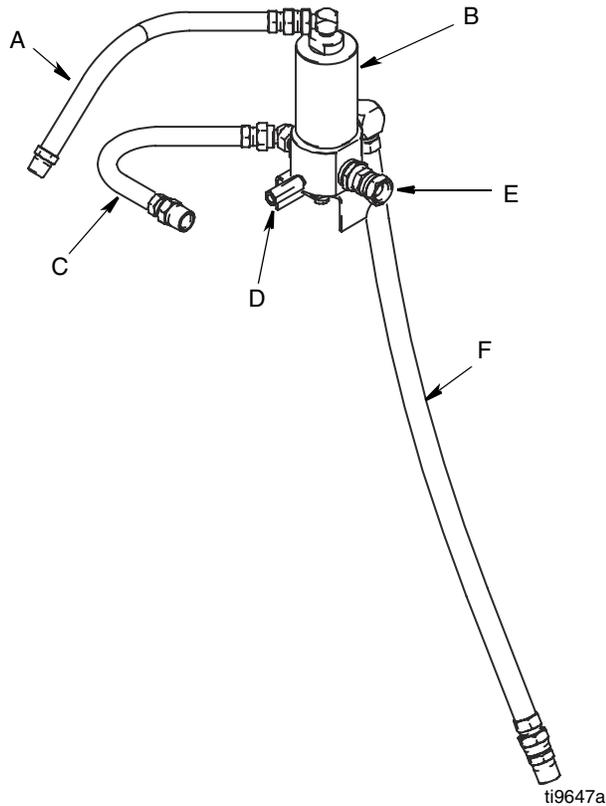
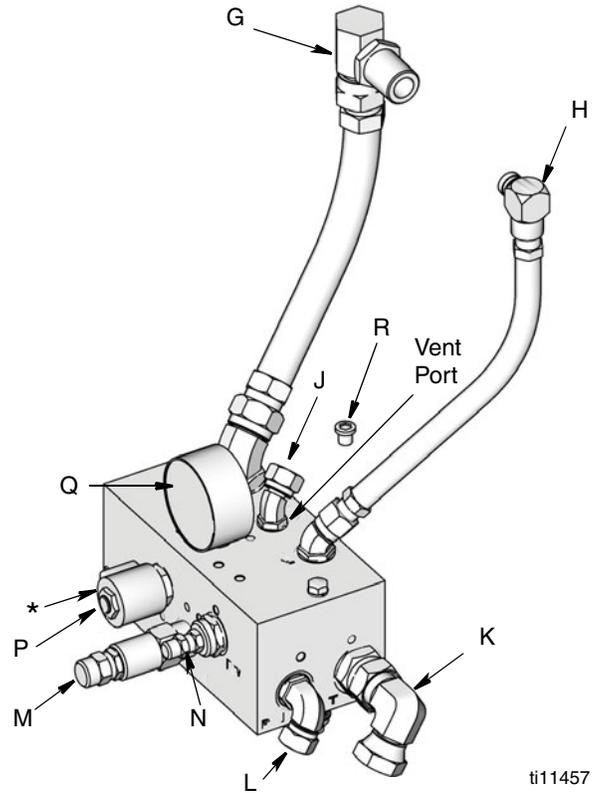

FIG. 5
FIG. 6
1. Install Pump (D) on Reservoir (P).
2. Remove Vent Valve Hydraulic Control (J) fitting and replace with Plug (R) (FIG. 6, page 9).
3. Install Hydraulic Control Module on Reservoir (P).
4. Connect Tank Line (G) to Pump (D).
5. Connect Pump High Pressure Hydraulic Line (H) to Pump (D).
(Unless otherwise indicated, see FIG. 5 and FIG. 6, page 9)